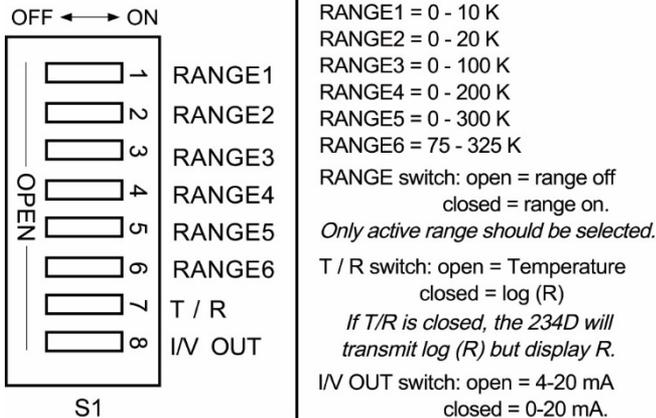

Figure 3-1. Model 234 DIP Switch (S1) Settings
If operating in temperature, enable the corresponding range number on the PCB DIP Switch (S1). See Figure 3-1. Select only one range at a time. The range is enabled when the switch is closed (ON). Units ship from the factory with the DIP switch set to RANGE1 closed (0 to 10 K).